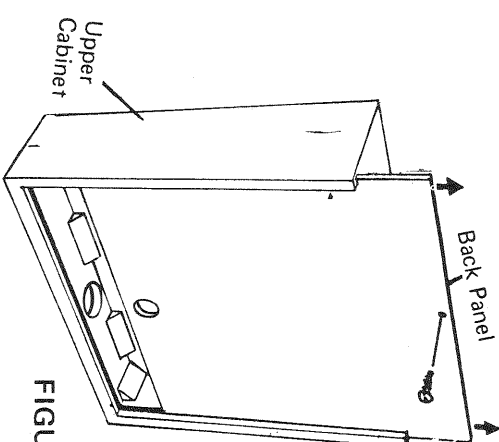

FIGURE 2
7. Remove the screw from rear or upper cabinet as shown in Figure 2. Slide the back panel up and out of the grooves as shown. Set back panel aside.